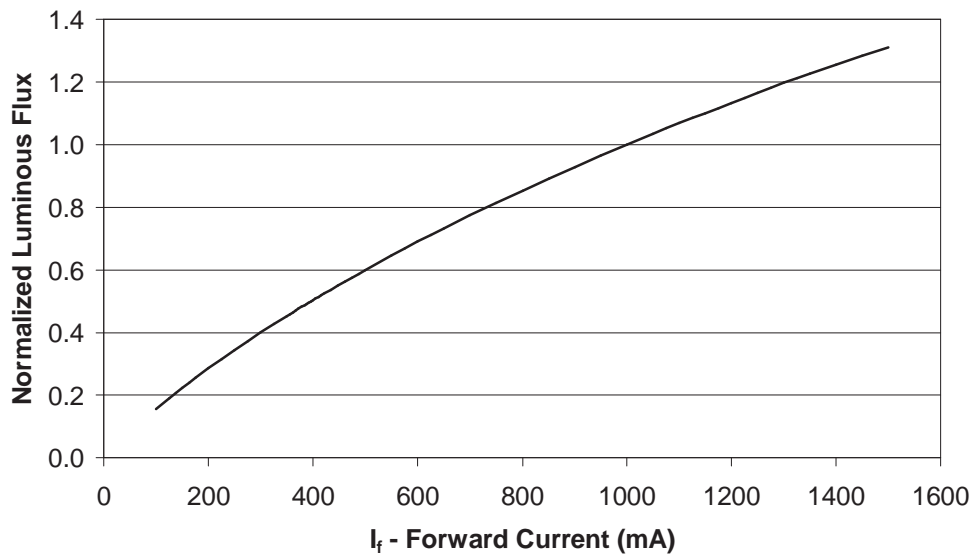

Figure 13. Relative luminous flux or radiometric power vs. forward current for white at 20ms monopulse, test current 1000 mA.
2. Dynamic resistance is the inverse of the slope in linear forward voltage model for LEDs. See figure 13.